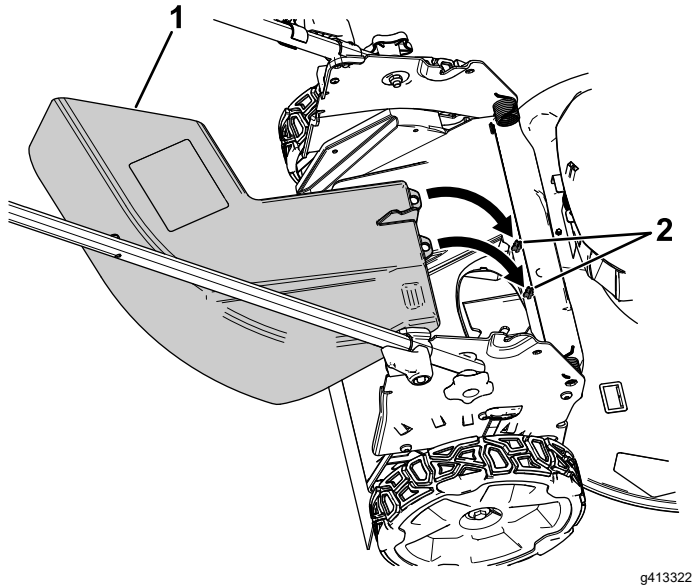

Figure 13
2. Attach the side-discharge chute to the rear of the machine using the attachment points (Figure 13).